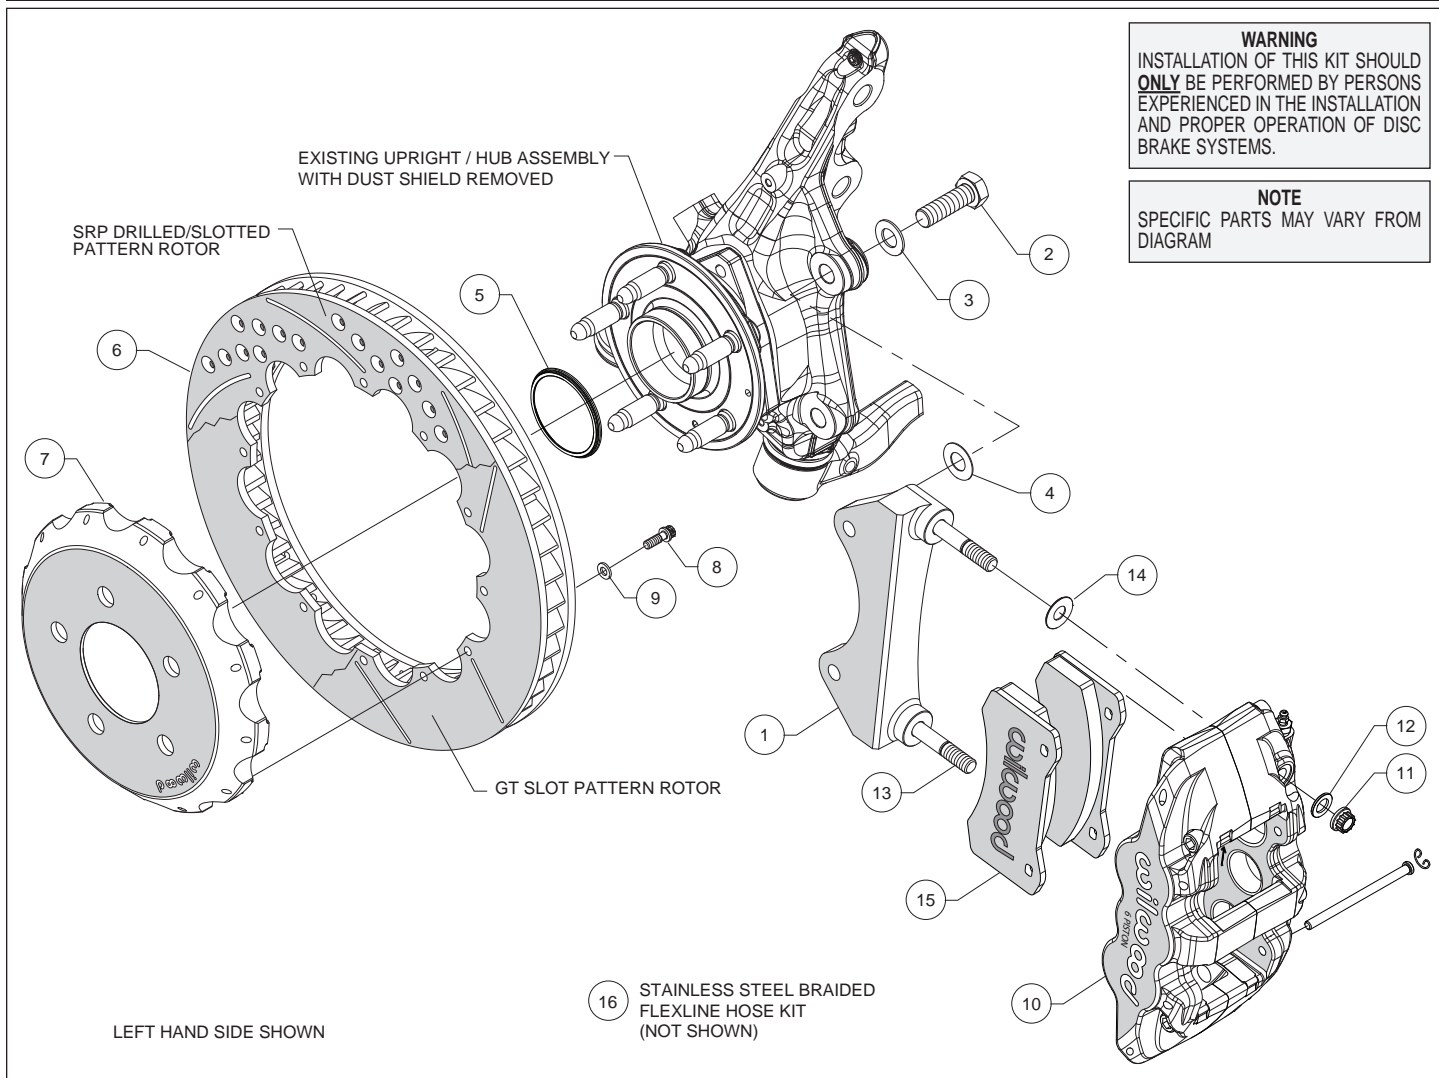
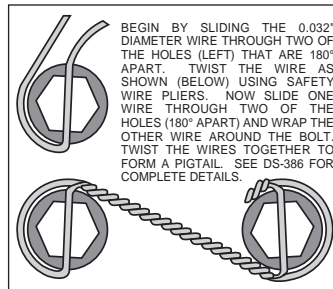

Figure 1. Typical Installation Configuration
Figure 3. Safety Wire Diagram
**Assembly Instructions** (numbers in parenthesis refer to the parts list and Figure 1 on the preceding pages):
- The caliper mount bracket (1) should initially be installed with clean, dry threads on the mounting bolts. Orient the bracket as shown in Figure 1, and Photo 1 and install using bolts (2) and washers (3). Initially place one .029" thick shim (4) on each bolt between the bracket and upright, Figure 1. Temporarily tighten the mounting bolts. **NOTE:** *The bracket must fit squarely against the mount bosses on the upright.* Inspect for interference from casting irregularities, machining ridges, burrs, etc. Later, after the caliper alignment has been checked, the mount bolts will be secured using red *Loctite*® 271.
- Orient the rotor (6) and the hat (7) as shown in Figure 1 and Photo 2. Attach rotor to hat using bolts (8) and washers (9). Using an alternating sequence, apply red *Loctite*® 271 to the threads, and torque to 155 in-lbs. For an added measure of security, the bolts may be safety wired using standard 0.032 inch diameter stainless steel safety wire as shown in Figure 3. Please refer to Wilwood's data sheet DS-386 (available at [www.wilwood.com/Pdf/DataSheets/ds386.pdf](http://www.wilwood.com/Pdf/DataSheets/ds386.pdf)) for complete safety wire installation instructions.
- NOTE:** *This kit contains distinct right and left hand calipers that must be mounted in a specific direction, as described below.* Lubricate the caliper mounting studs (13) with lightweight oil. Initially place one .030" thick shim (14) on each stud as shown in Figure 1 and Photo 5. Mount the caliper (10) onto the bracket (1) using lock nuts (11) and washers (12), Figure 1. Ensure that the caliper is mounted so that the largest pistons are at the rotor exit end of the caliper, in relation to the direction of rotor rotation. Temporarily tighten the lock nuts and view the rotor through the top opening of the caliper. The rotor should be centered in the caliper, Photo 6. If not, adjust by adding or subtracting shims (4) between the bracket and the upright. Always use the same amount of shims on each of the two mounting bolts. Once the caliper alignment is correct, remove the bracket mounting bolts (2) one at a time, apply red *Loctite*® 271 to the threads, and torque to 77 ft-lb.
- Remove the two pad retaining pins from the caliper (10) by carefully popping out the pin retaining clips and sliding out the pins. Insert the brake pads (15) into the caliper from the bottom, Figure 1 and Photo 7. With the friction material facing the rotor, secure the brake pads in place with the pad retaining pins and clips, Photo 8. Reinstall the caliper onto the caliper mounting bracket and temporarily tighten the lock nuts. Check that the top of the brake pad is flush with the outside diameter of the rotor, Photo 9. If not, adjust by adding or subtracting shims (14) between the caliper and the bracket. After the caliper pad height is set, torque the caliper lock nuts (11) to 47 ft-lb.